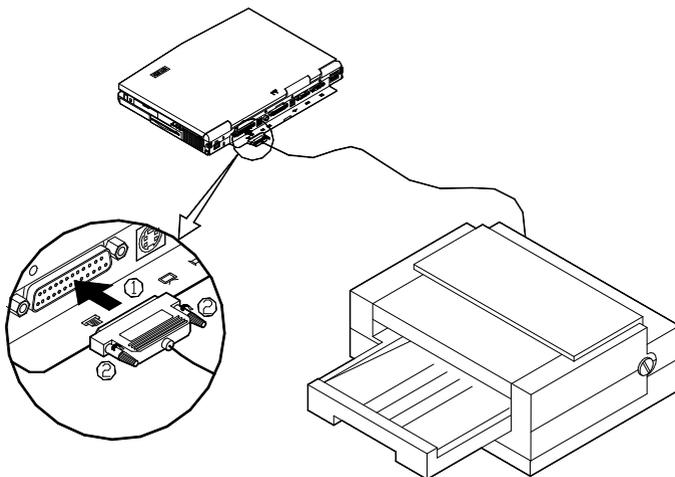

Figure 2-21
3. Tighten the screws that fasten the cable to the parallel port (Figure 2-21).